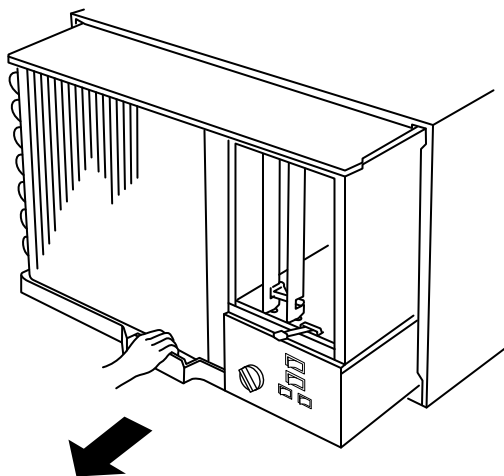

Fig. 9
- (4) While holding top of the cabinet with one hand, grasp the handle with another hand and pull the unit toward you. (Fig. 9)